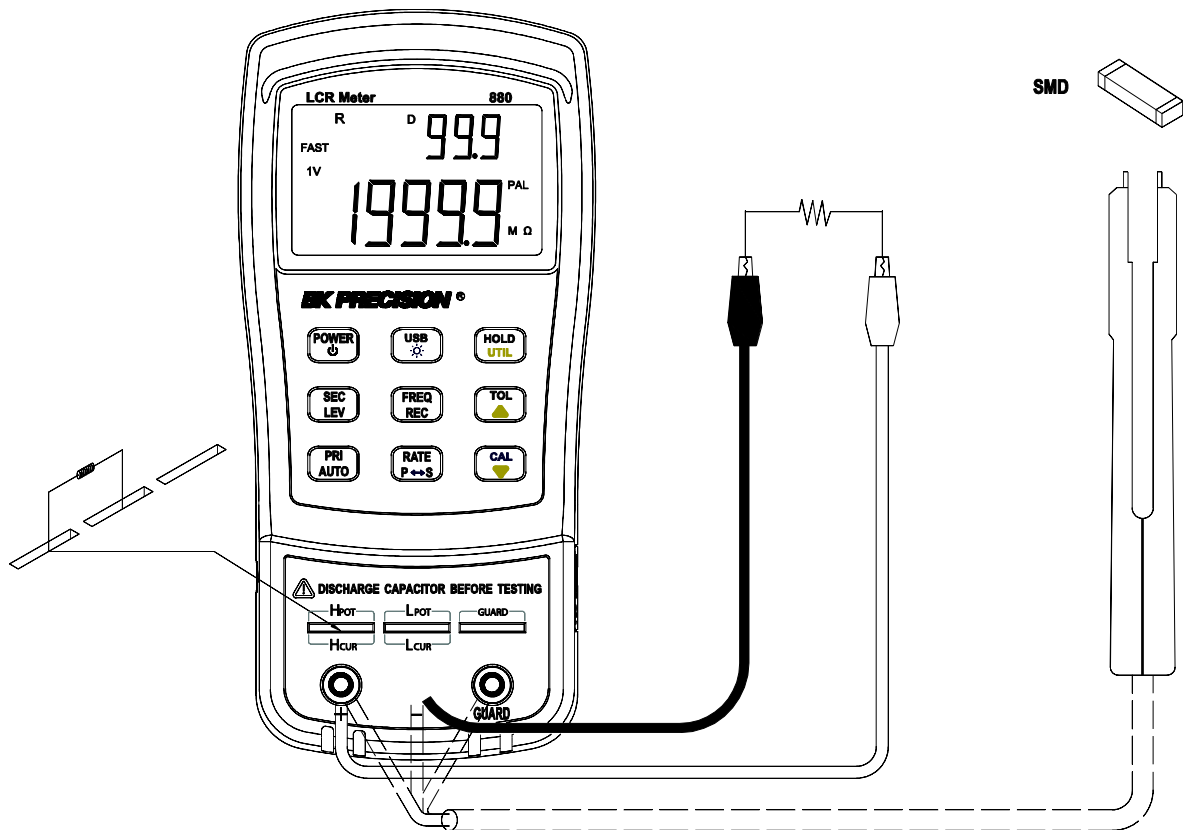

Figure 13 – AC Resistance Measurement Setup
3. Insert resistor or resistive component into the input sockets or connect alligator leads into the banana jack input terminals and connect the clips to the component leads as illustrated in Figure 13 – AC Resistance Measurement Setup
2. With the included mini USB cable, connect the mini USB end to the LCR meter and the other end to an available USB port on the PC (see Figure 13).